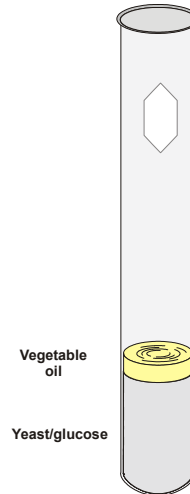

Figure 2
15. Carefully add 1 mL of oil on top of the yeast/sugar mixture as shown in Figure 2. This will serve to seal the mixture from free oxygen. Be careful to not get oil on the inside wall of the test tube.